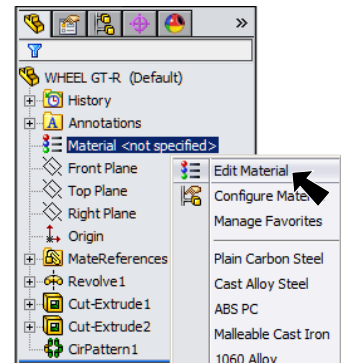

Fig. 21
Step 1. Right click Material  in the Feature Manager and click Edit Material, Fig. 21.